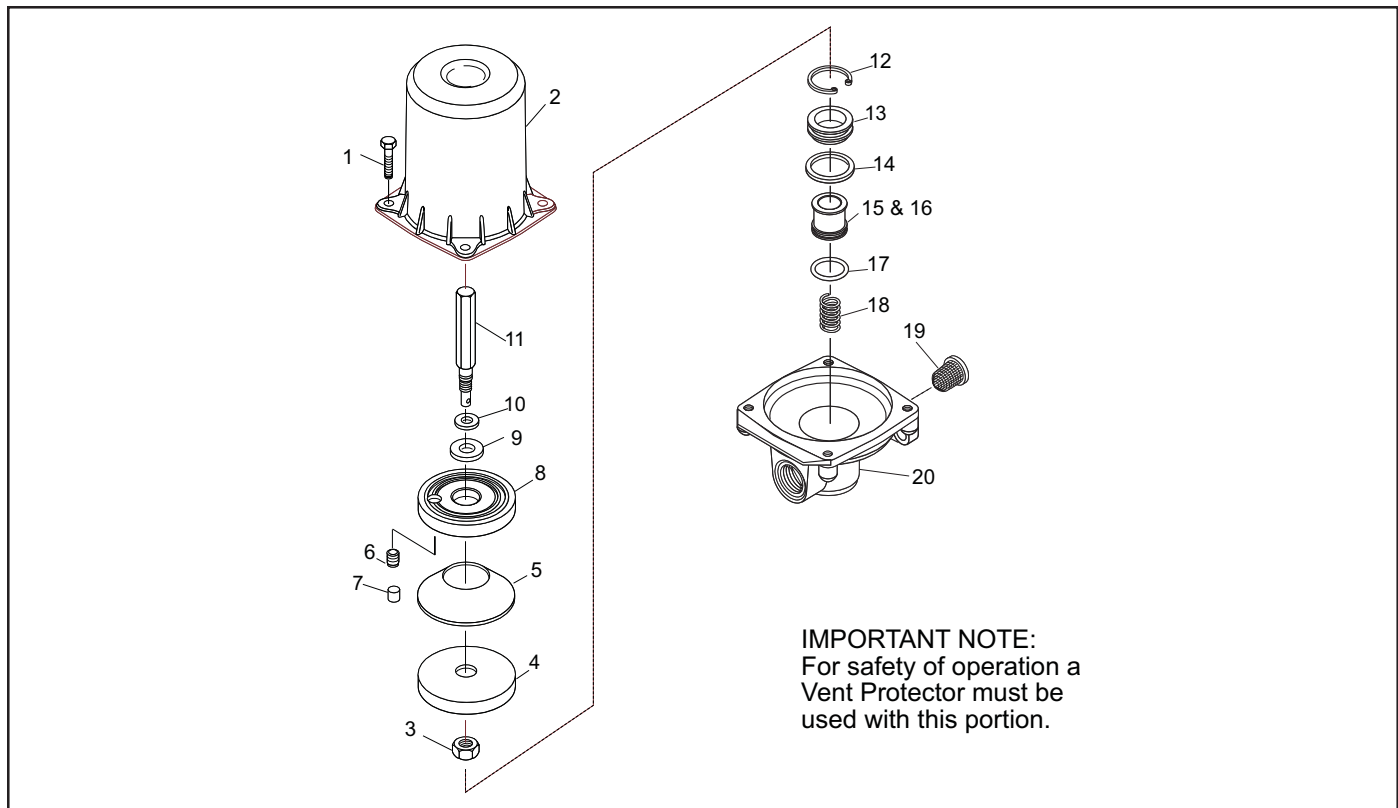

Figure 3 - Vent Valve Portion - Exploded View
9.1.2 Refer to Figure 3. Remove the four $\frac{3}{8}$ " x 1" hex head cap screws (1) that secure the diaphragm housing (2) to the body (20).
9.1.10 Remove and SCRAP the 1" flange fitting gasket (Reference No. 3 in Figure 3) from the mounting face of the body (20) if it is still in its groove. This gasket **IS NOT** a part of the Portion.
9.2.5 REMAINING PARTS (Figure 3)